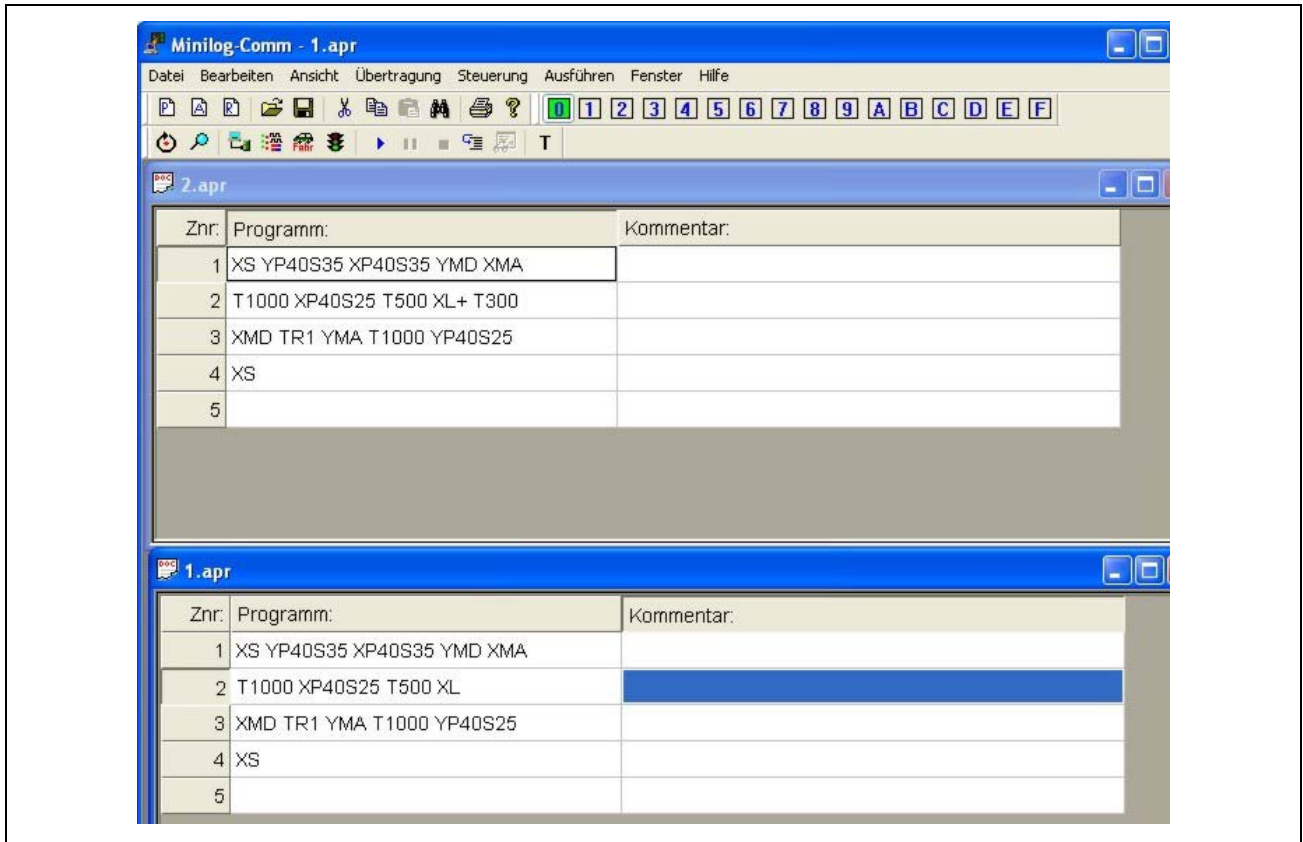

Fig. 35: Window: side by side
**Options / About MiniLog-Comm** gives important information about the program version of MiniLog-Comm, copyright and phytron's firm data (fig. 35).